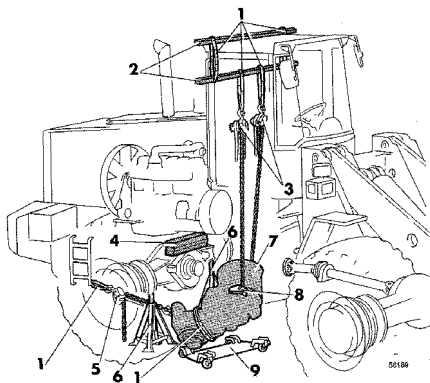

Figure 4
14. Lower the transmission to approx. 10 cm (4 in) above the ground. Connect the ratchet block, see **Figure 4**, in order to be able to incline the transmission at the same time as it is lowered onto E 616 with the gear selector valve upward.
17. Connect the lifting device according to Fig. **Figure 4**.